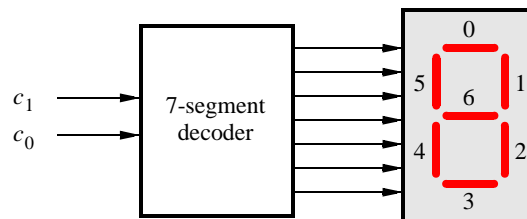

Figure 6. A 7-segment decoder.
Figure 6 shows a 7-segment decoder module that has the two-bit input  $c_1c_0$ . This decoder produces seven outputs that are used to display a character on a 7-segment display. Table 1 lists the characters that should be displayed for each valuation of  $c_1c_0$ . To keep the design simple, only three characters are included in the table (plus the 'blank' character, which is selected for codes 11).
2. Create a VHDL entity for the 7-segment decoder. Connect the  $c_1c_0$  inputs to switches  $SW_{1-0}$ , and connect the outputs of the decoder to the  $HEX0$  display on the DE1 board. The segments in this display are called  $HEX0_0, HEX0_1, \dots, HEX0_6$ , corresponding to Figure 6. You should declare the 7-bit port